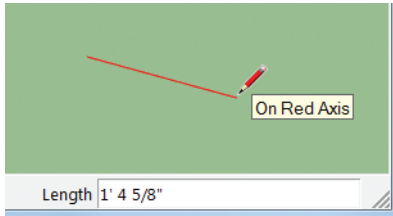

Figure 2.16: Line length snaps with preset 1/8" increments
- **Length snapping**—When modeling a line, for example, the mouse cursor snaps in increments of length that you have preset in the Preferences dialog (e.g., at every 1/8”). You can then simply click once the correct value has been reached, and the line will have the exact length. (See **Figure 2.16**.)